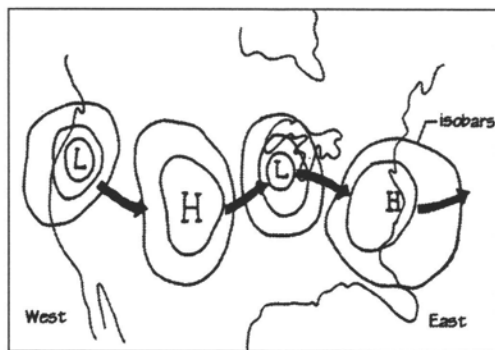

Figure 1: The regular progression of high and low pressure cells from west to east in the prevailing westerlies.
The "prevailing westerlies" that emerge from a description of global-scale circulations are, in reality, a sequence of travelling pressure cells (see Figure 1). These cells are delineated and tracked by drawing lines called *isobars* which join together locations with equal (*iso*) barometric (*bar*) readings on a *ground level* weather map. The resulting pattern is a series of distorted "bull's eyes" that are labelled as having relatively high (H) or relatively low (L) pressure at their centres. By observing several weather maps in a series, we discover that these cells normally move with a strong west-to-east component. Also, a glance at a
The Sports Turf Association appreciates the permission to use Figures 1 - 6 from Robert D. Brown and Terry J. Gillespie, *Microclimatic Landscape Design*, John Wiley & Sons, New York, 1995.